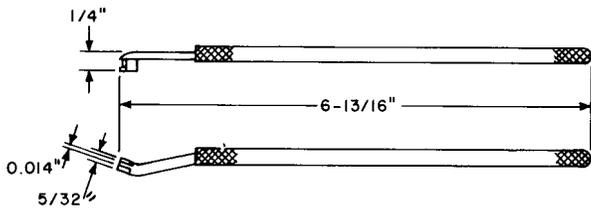

Fig. 3—524A Adjuster Tool
2.03 524A: The 524A tool (Fig. 3) is a spring adjuster used on 245-, 254-, 263-, and 264-type relays.